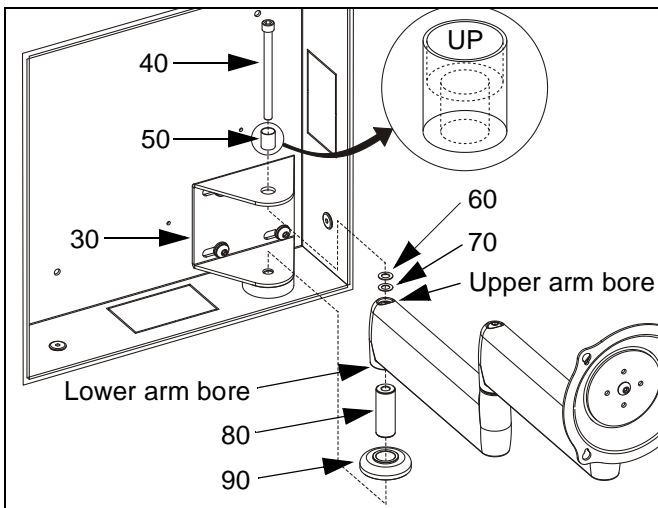
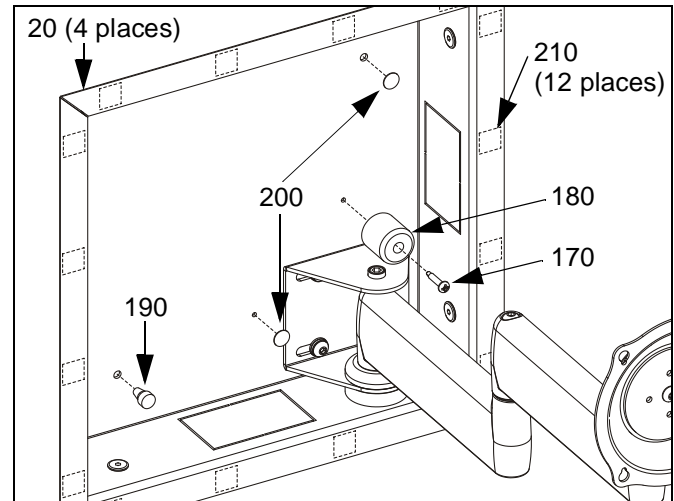

Figure 8: Install JWD Mount Arm Assembly
Figure 9: Final Assembly
1. Insert pin (80) into support (90).
2. Lightly coat exposed portion of pin (80) with grease (220).
3. While holding mount arm, insert washer (70) and washer (60) into upper arm bore, and insert lubricated pin (80) and support (90) into lower arm bore (See Figure 8).
4. While holding assembly together from previous step, insert assembly into bracket (30), followed by spacer (50) and screw (40) (See Figure 8). Ensure spacer (50) is inserted with the larger opening up.
5. Using key (260), securely tighten screw (40), then loosen as necessary to achieve desired arm friction.
6. Using Phillips screwdriver, insert screw (170) into recess in bumper (180) and install into fastener hole above bracket (30) (See Figure 9).
7. Install bumper (190) by pushing into far left side hole (for right side bracket (30) installation), or into far right side hole (for left side bracket (30) installation) (See Figure 9).
8. Install covers (200) over two unused holes in back wall of housing (10) (See Figure 9).
9. Finish housing (10) edge gaps:
- Moulding (20) may be installed. First apply tape (210) to inner surface of long leg of moulding, then press moulding into place (See Figure 9).